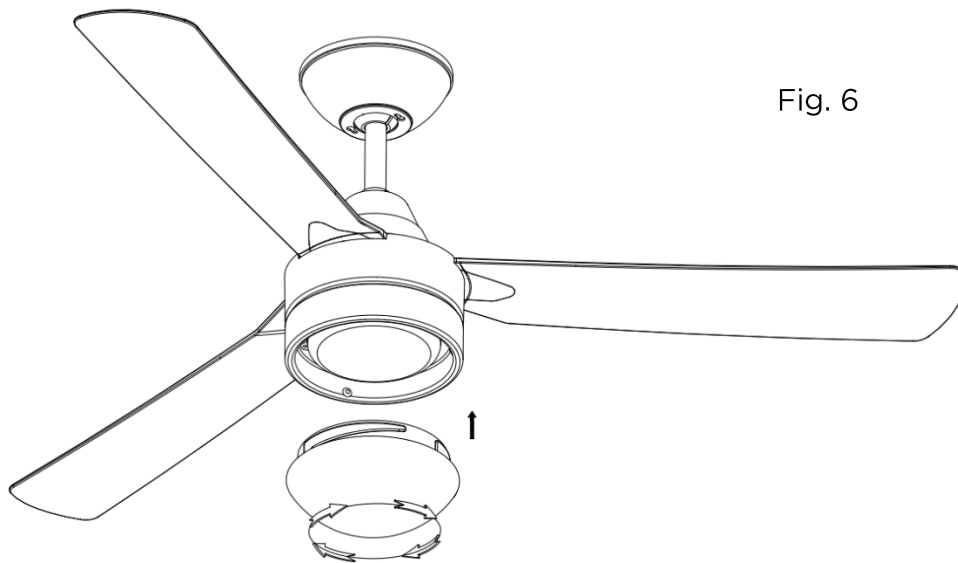

Fig. 6
5. Lift and attach the lamp glass shade to the base of fan assembly and secure it by turning it clockwise.(Fig.6)